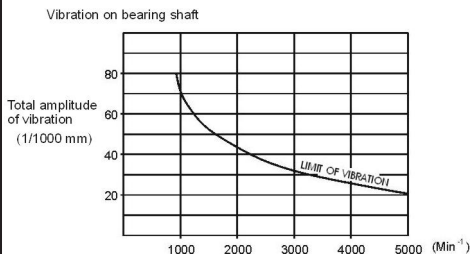

Fig. 4
(4) Fig. 4 shows the nominal values of vibration in the case of installation and work on the pipes being properly carried out.